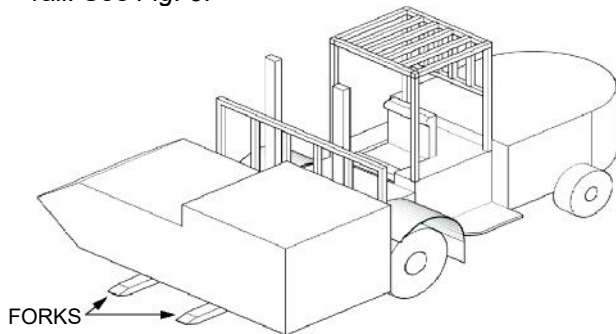

Figure 3 Forklift
5. Units can be lifted with forklifts as long as the forks are 40 inches and the end tips contact the bottom of the intermediate supports of the base rail. Additionally, a forklift may be used to lift small subassemblies or individual sections, but the forks must reach the other side of the base rail. See Fig. 3.